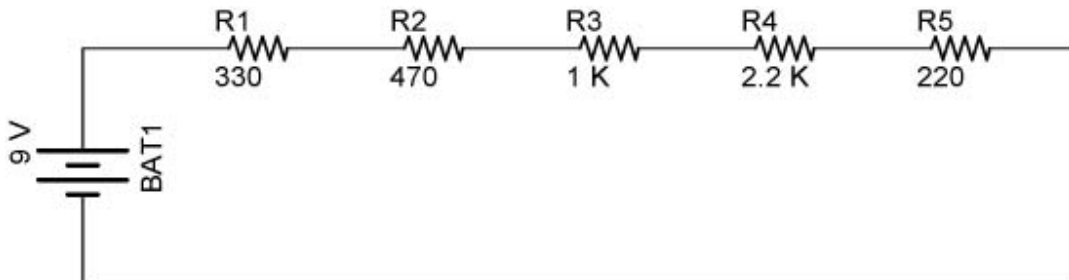

Figure 2
- Connect a 9 V battery to the resistor network as shown in Figure 2.